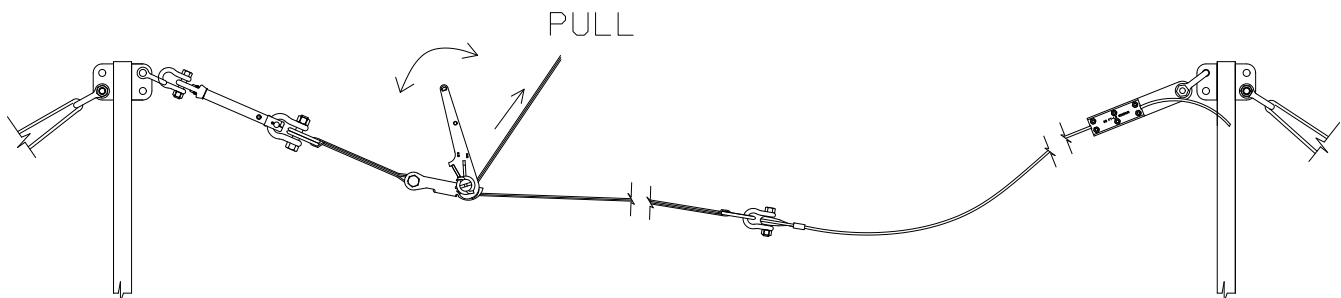

Figure 3
27. Begin lifting the horizontal lifeline cable assembly to its intended position (see Figure 3). If bypass stanchions are being used, the cable must be placed through the center of the bypass fittings before the cable is properly tensioned. Pass the free end of the ratchet strap into the slot of the ratchet. Pull the free end of the ratchet strap to help remove slack from the lifeline cable.